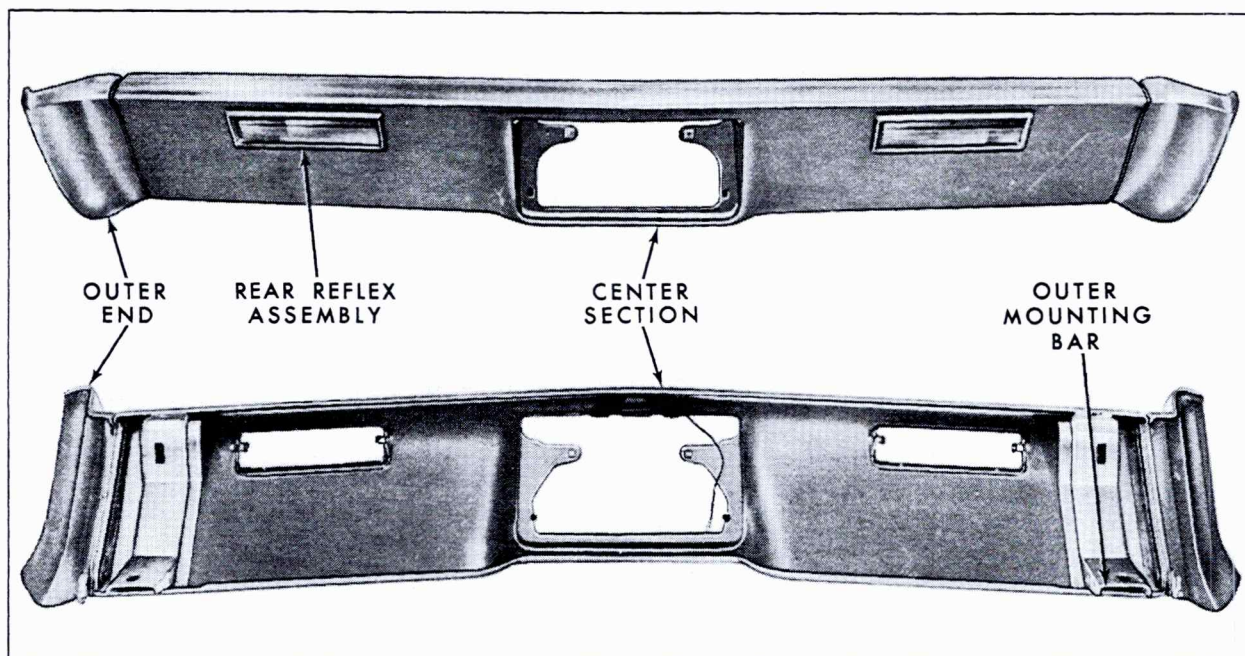

Fig. 14-7 Eldorado Rear Bumper - Front & Rear View
The rear bumper assembly, Fig. 14-7, consists of a center bar and two outer ends. The center bar provides for the mounting of the license plate light and rear reflex assemblies.
a. Removal (Fig. 14-7)
b. Installation (Fig. 14-7)